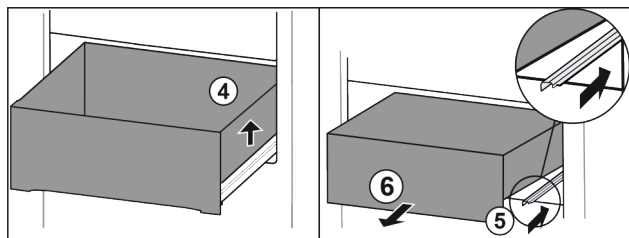

Fig. 78
▶ Lift drawer on the right. Fig. 78 (4)
▶ Insert right rail. Fig. 78 (5)
▶ Remove drawer to the front. Fig. 78 (6)